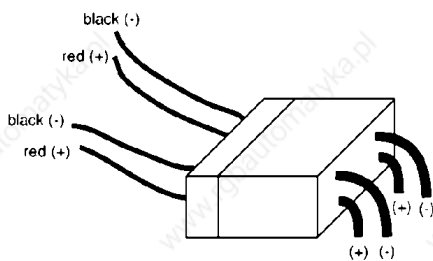

Figure 4: MK Connector
1. On power card, locate connectors marked "MK1", "MK2" and "MK3". Two pairs of leads connect to each connector, consisting of a red and a black lead. Red leads connect to gate of each IGBT. Black leads connect to emitter of IGBT. (See Figure 4 and Figure 6 on the following page.)